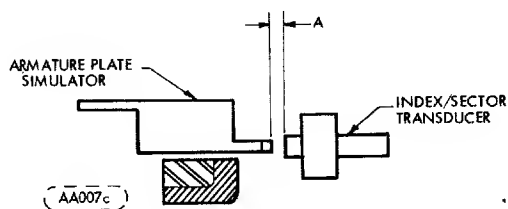

FIGURE 6-22. INDEX/SECTOR TRANSDUCER ADJUSTMENT
5. Install armature plate simulator onto spindle as shown in Figure 6-22.